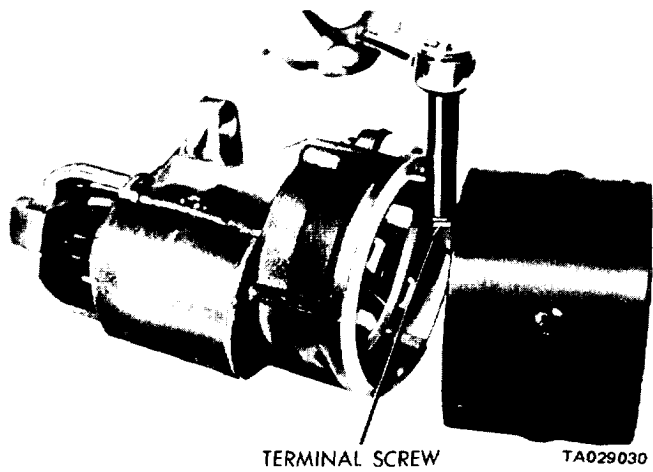

Figure 15-3. Removing Terminal Screw.
- c. Pull the field-frame assembly from the gear housing far enough to expose the terminal screw. Remove the terminal screw (figure 15-3).
(17) Install the brush terminal screw (figure 15-3).